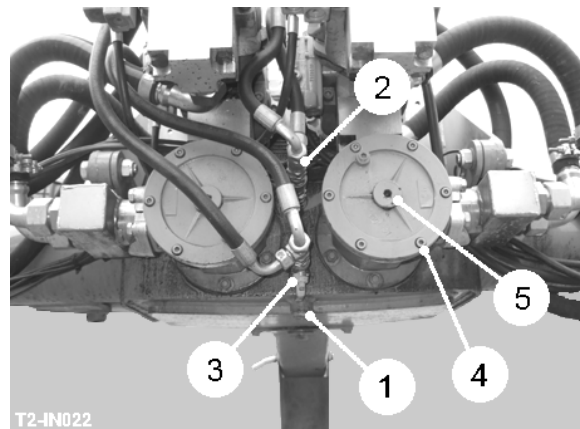

Fig 36
The oil reservoir magnetic plug (item 1, fig 36), located underneath the centre of the front beam, should be removed and cleaned annually. This plug is also used to drain the reservoir, so if the oil is not being changed a temporary 3/4" BSP plug should be used to seal the tank and minimise oil loss.
The shut-off valves (item 2 & 3, fig 36) connected to the pump case drain lines allow maintenance to be carried out without draining the oil tank.
1. Wind the suction filter screw (item 4, fig 36) fully out anti-clockwise to close the cut-off valve within the filter housing.
2. Release the six screws (item 5, fig 36) holding the filter lid. A small amount of oil will be lost from the filter body.
5. Wind the suction filter screw (item 4, fig 36) fully in clockwise to open the cut-off valve.